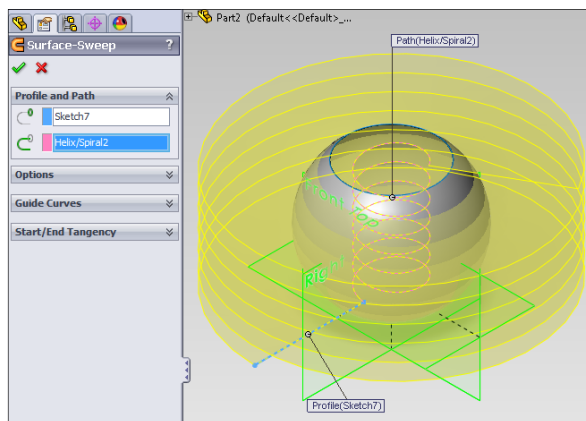

Fig.7
6. Create helix surface using **Swept Surface** : Fig.7